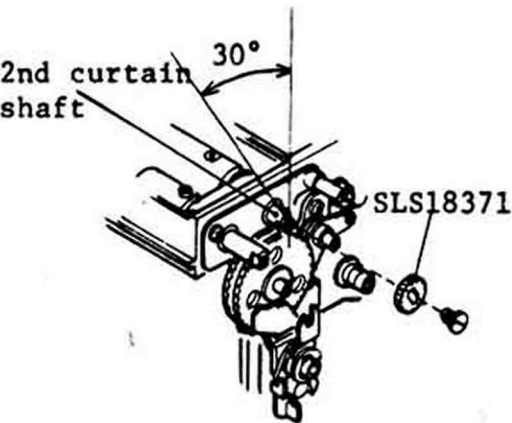

Fig. 24
- 5) Rotate 2nd curtain shaft with the index finger and middle finger of left hand counterclockwise, until its cut end points 11 O'clock (inclines at thirty degrees) as shown in Fig. 24.